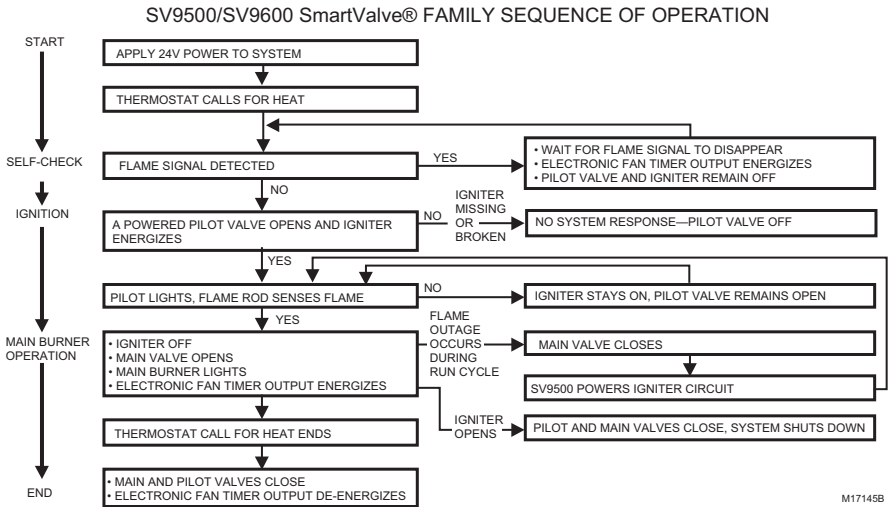

Fig. 13. SV950/SV9600 SmartValve™ System Sequence of Operation.
8. Follow the Operating Sequence and Troubleshooting flow charts as shown in Fig. 13 and 15 for the installed SmartValve™ SV9500/SV9600 to make sure replacement is necessary.